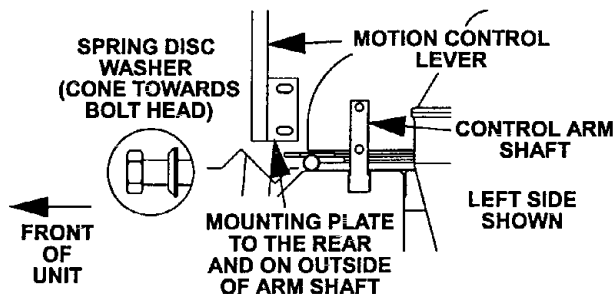
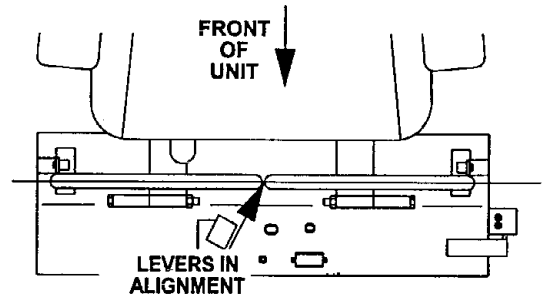

FIG. 1
FIG. 2
- 3.5.1 Loosen and remove the two (2) 3/8" x 1" bolts and spring disc washers which attach the motion control levers to the control arm shafts for shipping and the two (2) 3/8" x 1" bolts and spring disc washers which are screwed into the control arm shafts.
- a) Install the left motion control lever onto the control arm shaft (See Fig 1) on the left side of the console. Place the lever (with the mounting plate towards the rear) on the **outside** of the control arm shaft and secure with the bolts and washers. Position the lever so the bolts are in the center of the slots on the lever mounting plate and tighten until snug. Repeat on opposite side of unit. If the levers do not align with each other, when in the neutral position, (See Fig 2) loosen the hardware and make the appropriate adjustment by sliding/tilting the lever(s) forward or backward until properly aligned and tighten hardware.